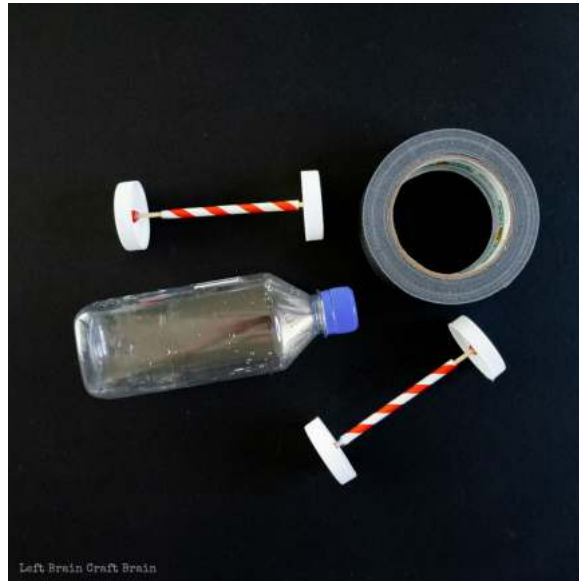

Figure 3: The two axles and car body
- 8) Repeat steps 5 to 7 to make the second axle. The completed axles are shown in figure 3.